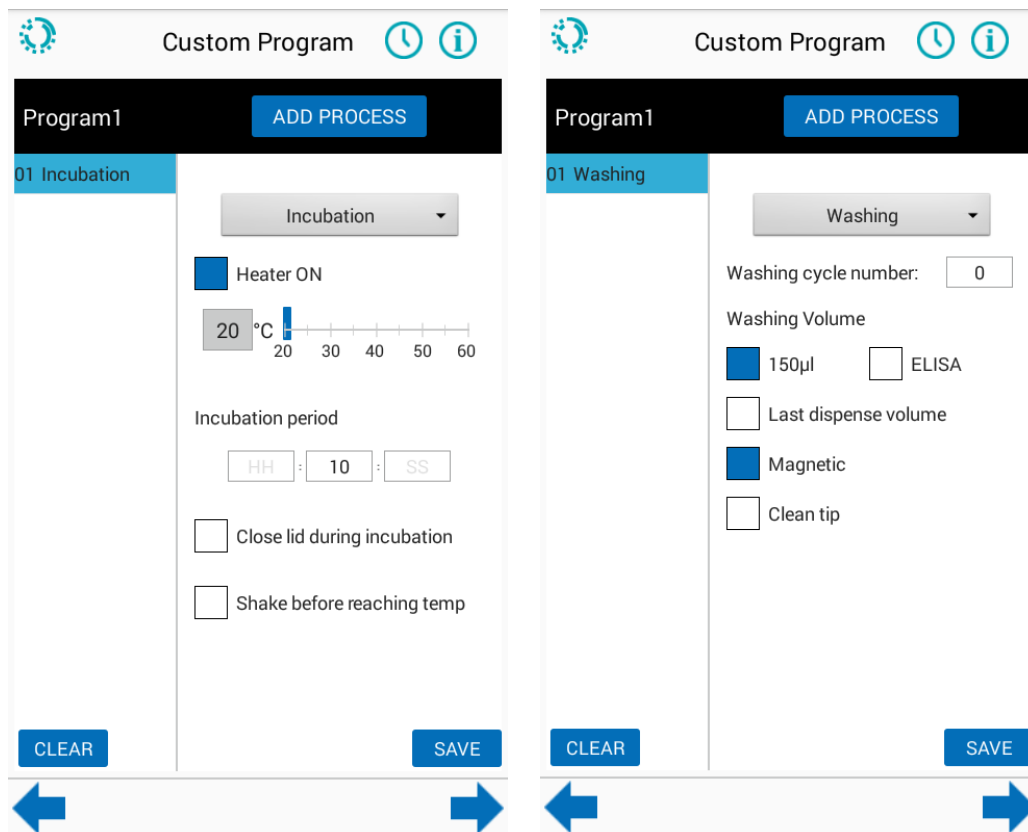

Fig. 22. Set detailed parameters for each process
- Step 4. Fig. 22: Set detailed parameters for each procedure like temperature, time, washing cycles, etc., and save the procedure (optional).